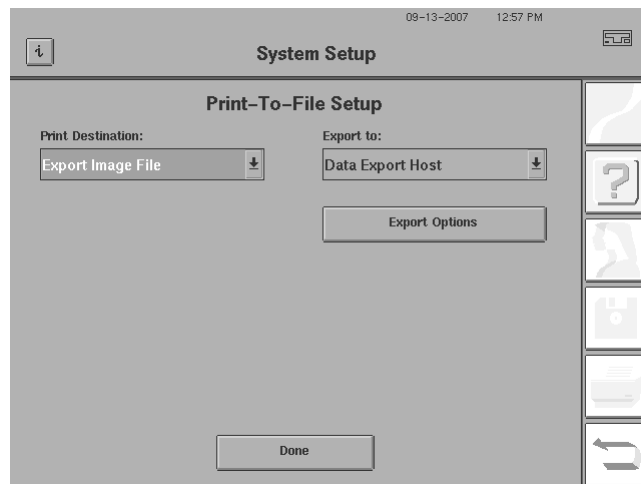

Figure I.30 Print-To-File Setup Screen
- 2 From the Print Setup screen, select the PRINT-TO-FILE SETUP button to display the Print-To-File Setup screen (Figure I.30).